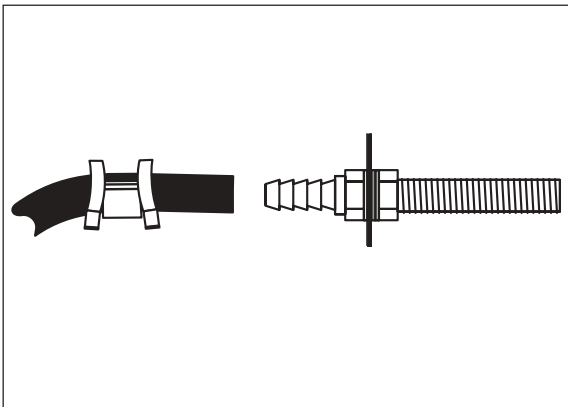

Figure 6
10. Slide air line clamp over the air line. Push air line onto fitting covering all barbs, with pliers slide the air line clamp forward until it fully covers the barbed section (Figure 6).
9. Slide a clamp onto the air line and push the air line over the fitting, covering all the barbs. With pliers slide the air line clamp forward until it fully covers the barbed section (Figure 6).